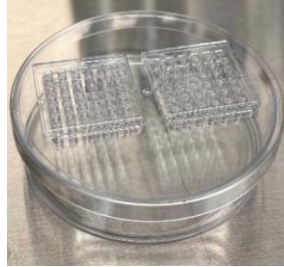

Figure 1. Hydration of the pillar plate surface in a 90 x 15 mm petri dish with 500 µL of sterile, distilled water to minimize air bubble entrapment.
4. Hydrate the surface of the pillar plate by inserting two 36PillarPlates in the 36PetriLid on a 90 x 15 mm petri dish containing 500 µL of sterile, distilled water and placing it in a 5% CO₂ incubator at 37°C for 20 - 30 minutes (**Fig. 1**).